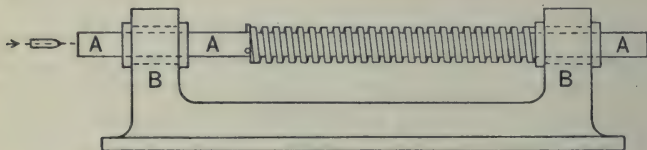

Fig. 98.
**19.** In fig. 98  $A$  is a hard steel shaft which can slide horizontally in the bearings  $BB$ . It is provided with stops which are just in contact with the end of the spring buffer. A lead bullet moving with a velocity of 1000 feet per second strikes the end of the shaft in the centre. The mass of the shaft is 5 lbs., that of the bullet 0.04 lb., and the spring compresses 1 inch under a load of 20 lbs. The force required to overcome the friction of the shaft is 1 lb. Assuming that the mass of the spring may be neglected, find to the nearest hundredth of an inch by how much the spring is compressed by the blow.